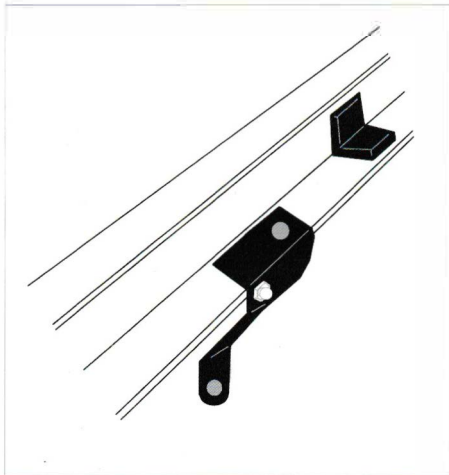

Figure 1
3. In the kit, find the fender brackets (large). Position the fender bracket over the fender bolt hole. Place the fender bolt back in the bolt hole and hand tighten. Note: The fender brackets are side-specific. Make sure the bracket angles toward the front of the Bronco and the ball joint is facing away from the fender as shown in Figure 1.